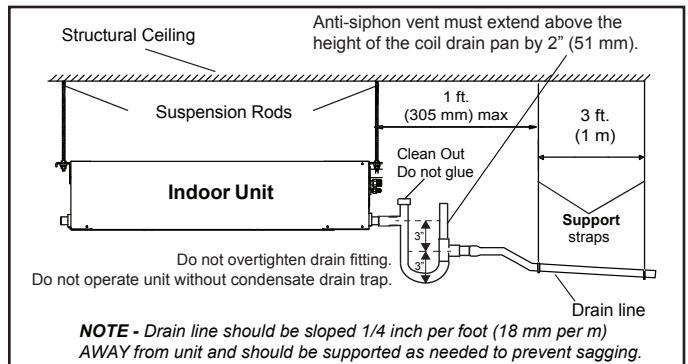

Figure 11. Sloped Condensate Drain -- Single Unit
3. See Figure 11 for applications including a single unit and a single drain. In this case, ensure that the drain line is properly sloped (no less than 1/4 inch per foot) and condensate lines are routed to ensure moisture is drained away from the indoor unit.